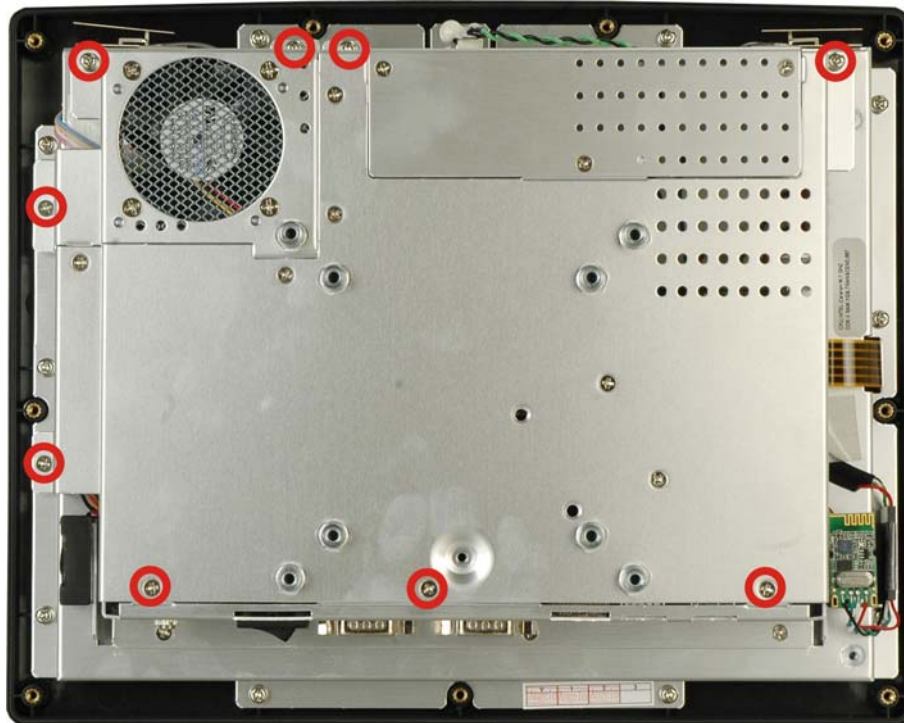
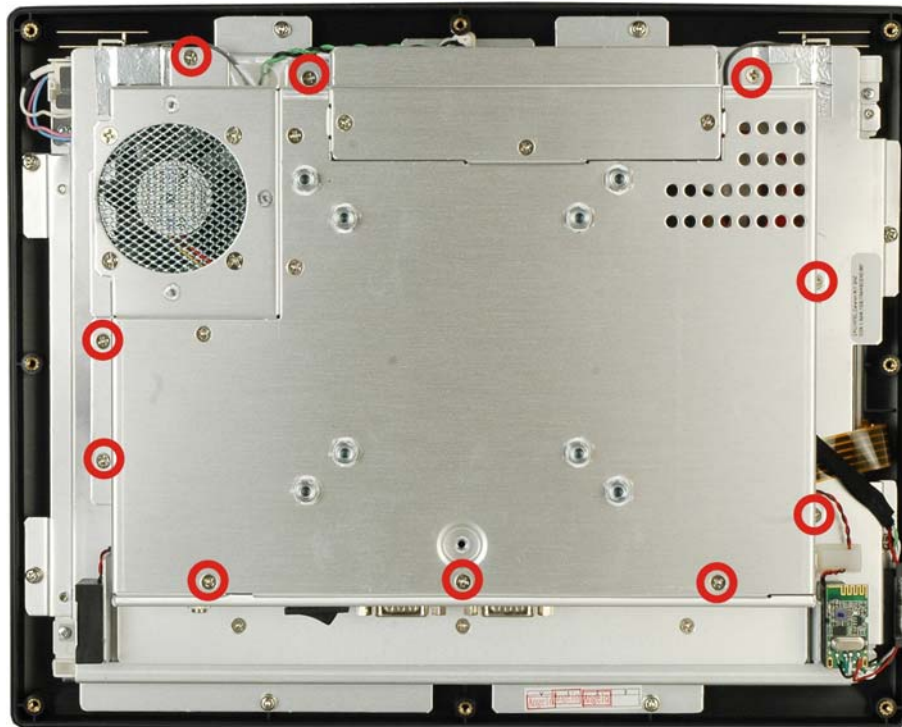

Figure 4-1: AFL-10A-9103-R10 Aluminum Back Cover Retention Screws
Figure 4-2: AFL-12B-9103-R10 Aluminum Back Cover Retention Screws
Step 1: Remove the retention screws securing the internal aluminum cover (**Figure 4-1** and **Figure 4-2**).